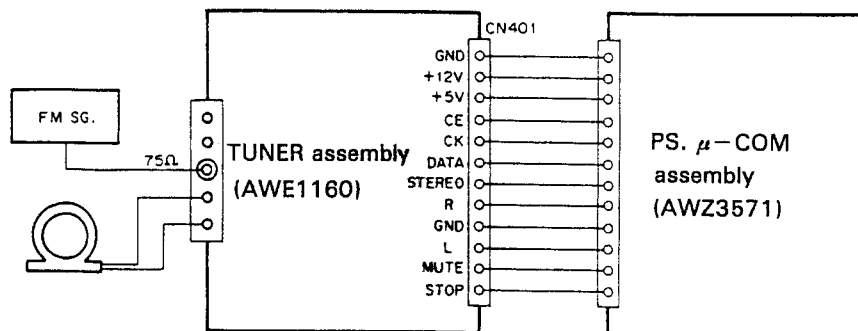

Fig. 5-1
1. Connect the wires as shown in Fig. 5-1 (FM ANT. terminal : 75Ω).